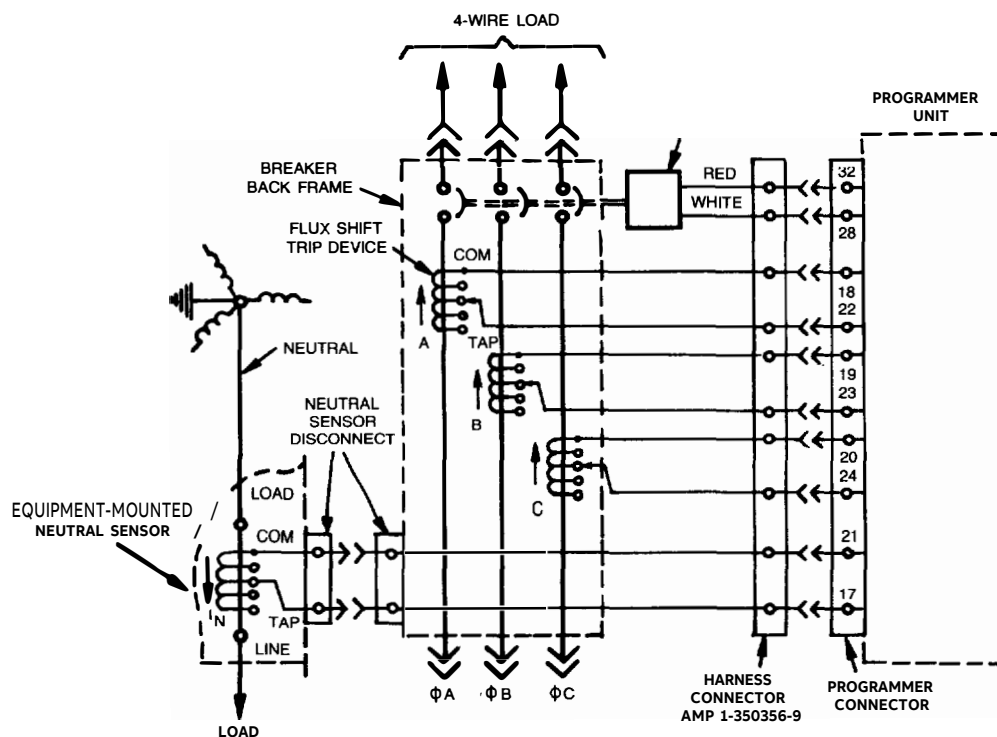

Figure 6-4 Cabling Diagram-MicroVersaTrip With Ground Fault on 4-Wire Load -Breaker Reverse Fed
- c. Verify that on breakers where the lower studs connect to the supply source, the neutral sensor has its LOAD end connected to the source. See Figure 6.4